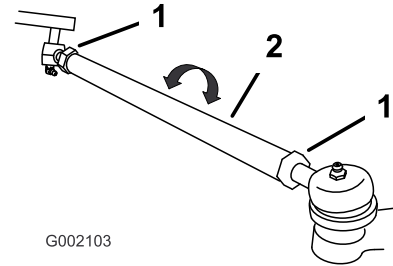

Figure 55
7. If the measurement does not fall within 0 to 6 mm (0 to 1/4 inch), loosen the jam nuts at both ends of the tie rods (Figure 55).